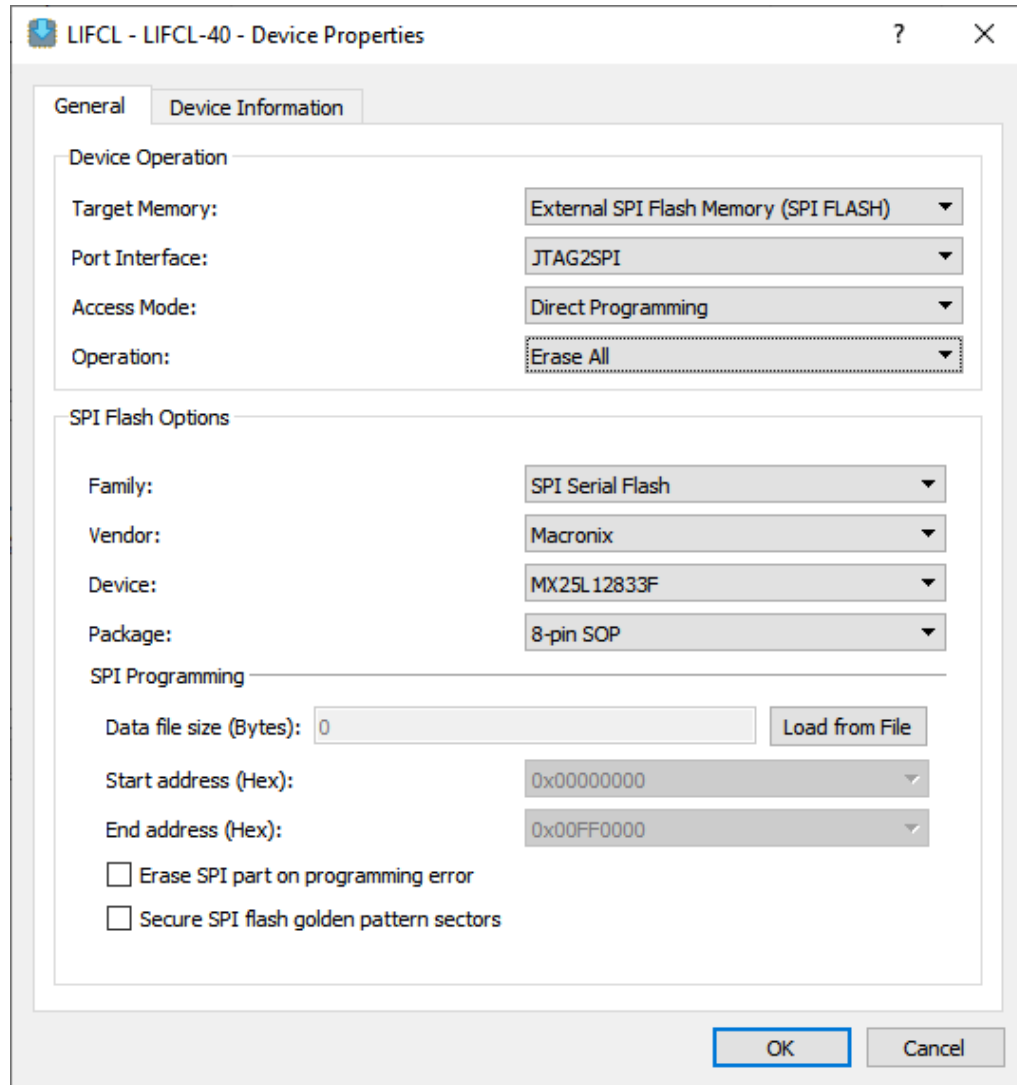

Figure 4.3. Radiant Programmer – Erase Previous Content
5. Select the options shown in Figure 4.3 to erase the previously programmed content.